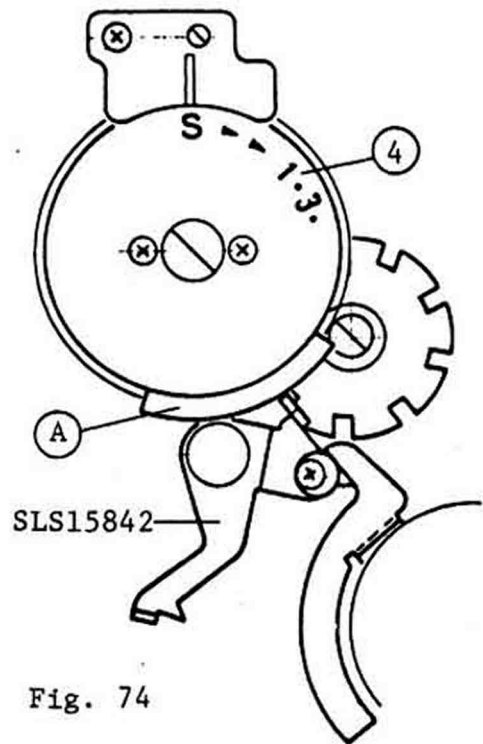

Fig. 74
- 1) When (4)-Film counter rotates, operation of SLS15842 Stop lever is controlled by protrusion (A) of SLS15521 Film counter disk as shown in Fig. 74.